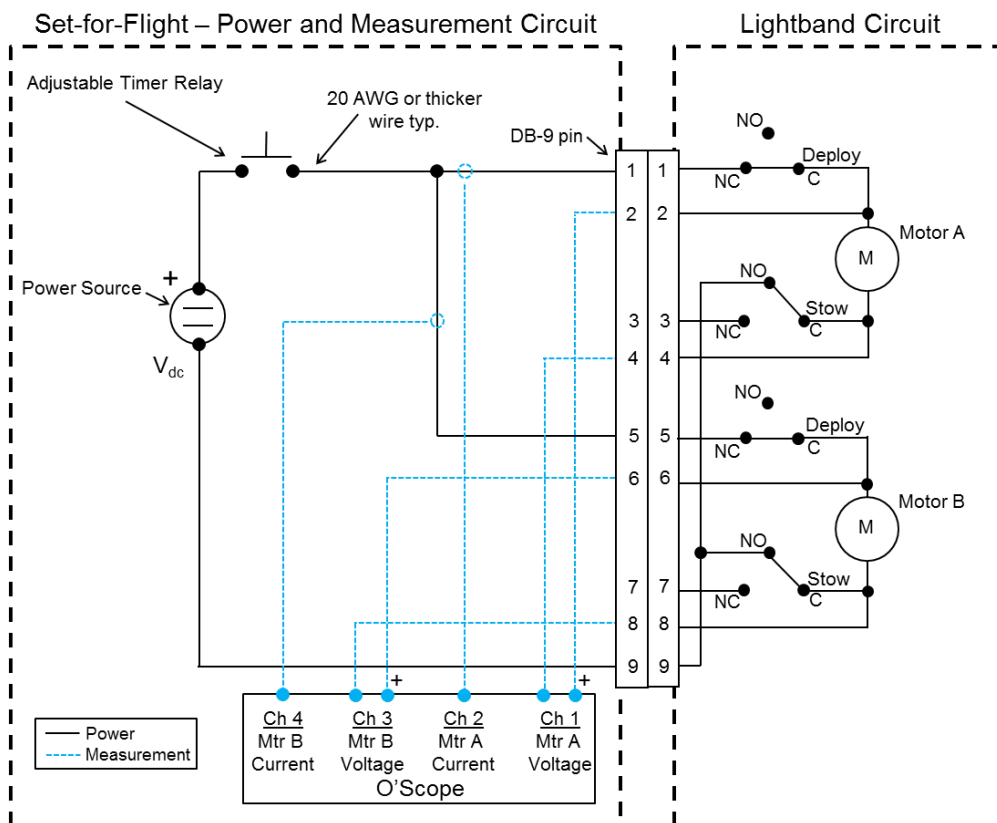

Figure 25: Set-for-Flight Circuit
8.1.9	Remove the 'Set-for-Flight – Test Circuit' and connect the Lightband to the 'Set-for-Flight – Power and Measurement Circuit' per Figure 25. Do not apply power to the Lightband.